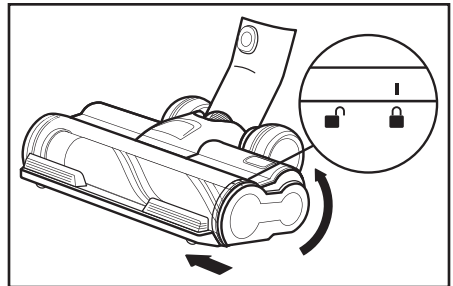

Fig. 5
4. Insert the brushroll back into the vacuum head. Slide the side panel up to lock it in place (Fig. 5).